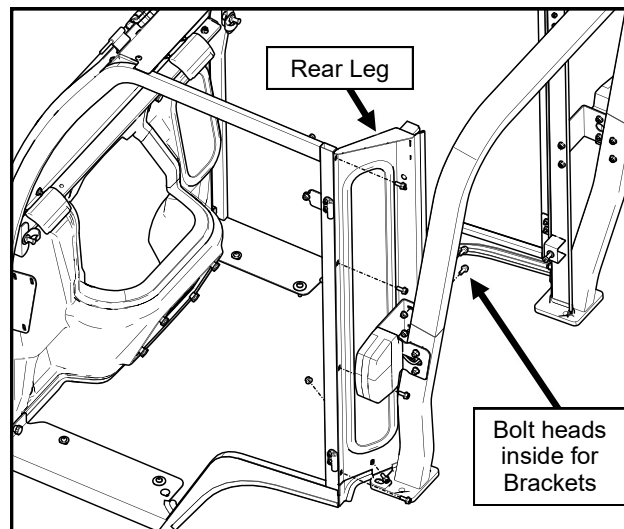

Fig. 11.1 (Rear Leg Installation)
**11.1** With assistance, install the left side rear leg oriented as shown. See Fig. 11.1. Fasten to the side frame and ROPS brackets. Align the top of the rear legs to the top of the side frames and tighten all fasteners. Repeat for right rear leg.